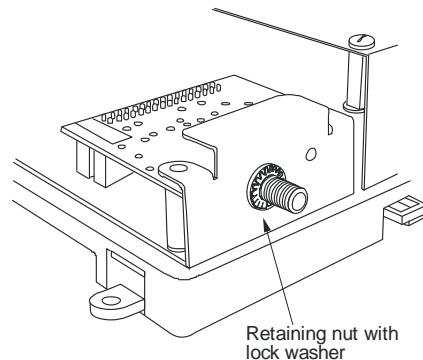

Figure 3: Mounted Wireless TEC Option Card
6. Assemble the metal mounting bracket to the Wireless TEC Option Card so that the reset button and status Light-Emitting Diode (LED) are aligned with the required holes in the bracket. Secure with the retaining nut and lock washer (see Figure 3).